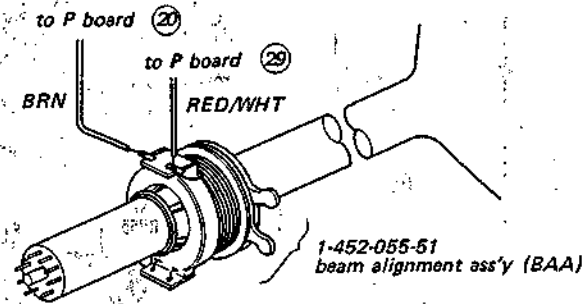

Fig. 3-7.
5. Set a new BAA and connect jumper wires as shown in Fig. 3-7.